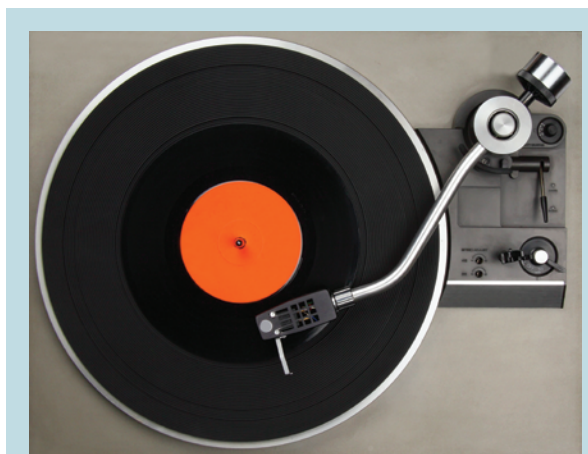

Figure 3 A vinyl record. The stylus tracks the groove inwards from the edge.
2. Vinyl records have been making a comeback over the past few decades (Figure 3). These have a diameter of 30.0 cm and rotate at $33\frac{1}{3}$ rpm, which is fixed, unlike for a CD or DVD. The stylus is placed on the record at the edge and works its way inwards on a spiral track.